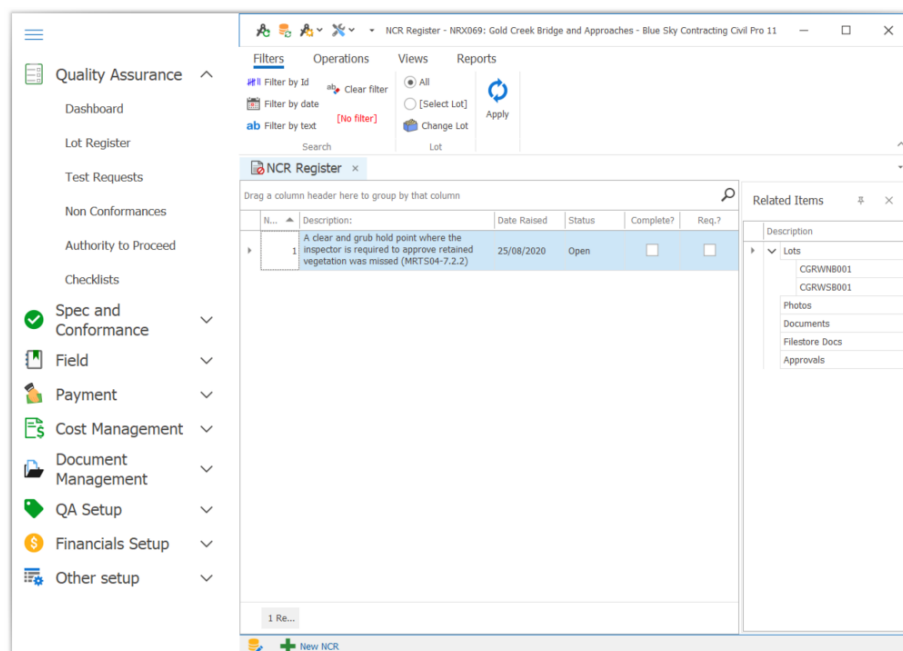

Figure 71 NCR Register showing two associated lots
8. Re-associate by double clicking on the Lots heading, selecting the CGRWNB001 Lot and dragging it onto the Lots Register. You can do a similar operation from the Lots Register - try it by also linking this NCR to Lot CGRWSB001 from the Lot Register. Once done you will see both Lots as related items within the NCR register as in Figure 71.